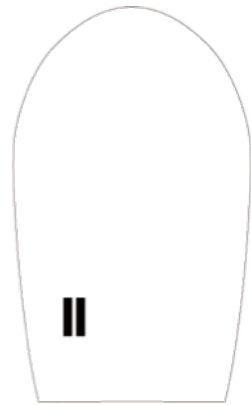

**FIGURE 7**
2. Hold the iron in a vertical position (Figure 7) 15 to 30 centimeters away from the garment.